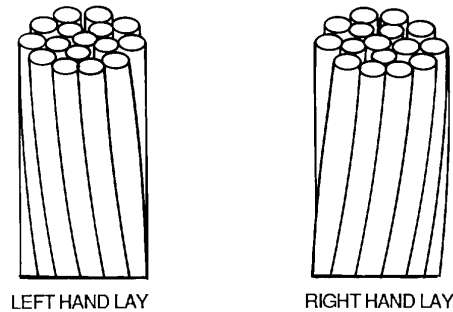

Figure 2. Lay
(1). Lay is the axial length of one complete turn of one strand in the conductor, either right hand or left hand twist (Figure 2).